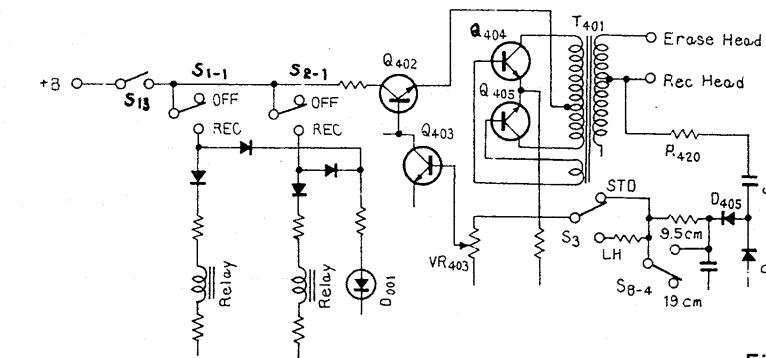

Fig. 3
7. When operating the REC switches voltage +B is fed to the oscillator circuit and the current flows simultaneously to the light-emitting diode (D001) through the relays and recording is indicated (Fig. 3).
3.3 OSCILLATOR CIRCUIT (Fig. 3)